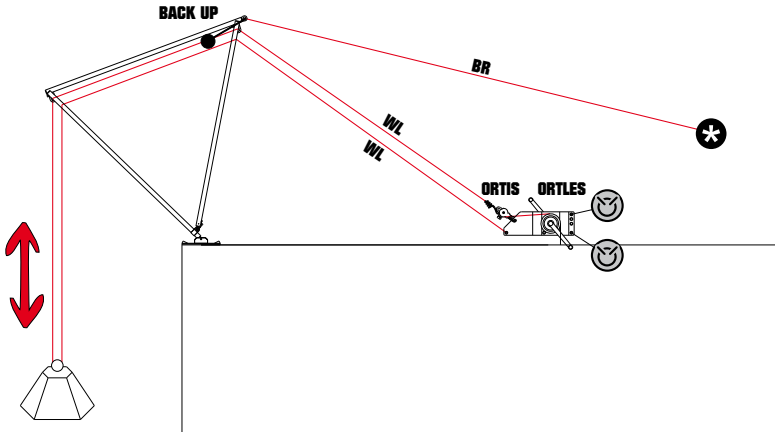
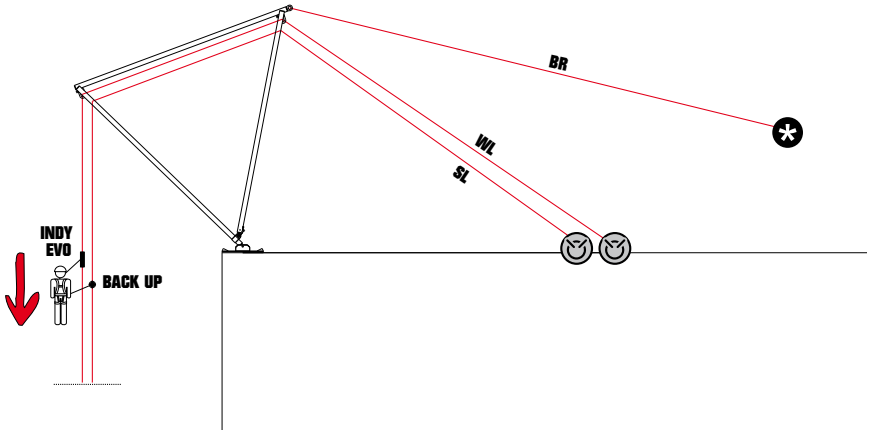

fig. 17
fig. 18
- descent (fig. 17) and ascent (fig. 18) on the rope,